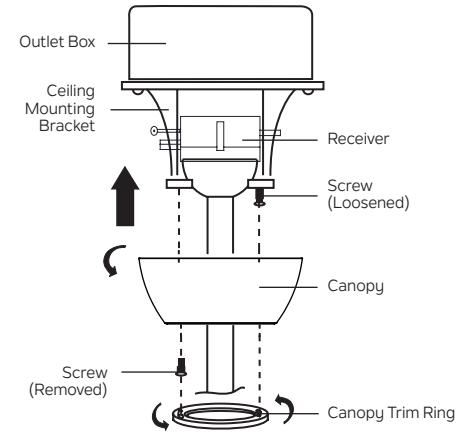

Fig. 14
Step 2. Carefully raise the canopy up to the ceiling mounting bracket and place the keyhole slot in the canopy over the screw head on the ceiling mounting bracket. Rotate the canopy (clockwise) until it locks in place against the screw at the narrow section of the keyhole slot. **(Fig. 14)**
NOTE: Adjust the screws as necessary until the canopy and canopy trim ring are snug. **(Fig. 14)**